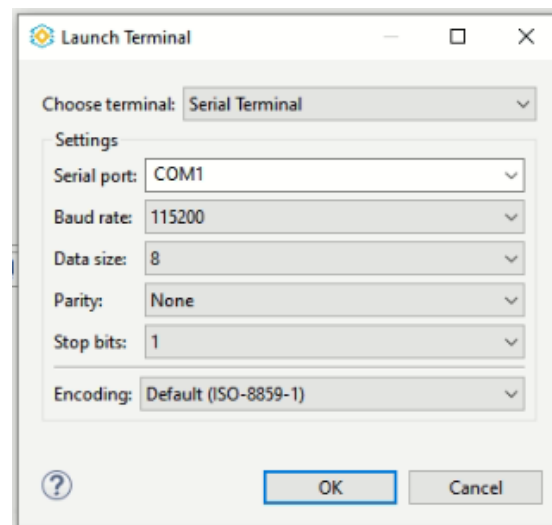

Figure 5.3. Lattice Propel Launch UART Terminal
8. Select the settings in the terminal dialog box as shown in Figure 5.3. Always select the highest numbered COM port available in the **Serial Port** option. For example if COM1, COM6, and COM7 are visible, select **COM7**.